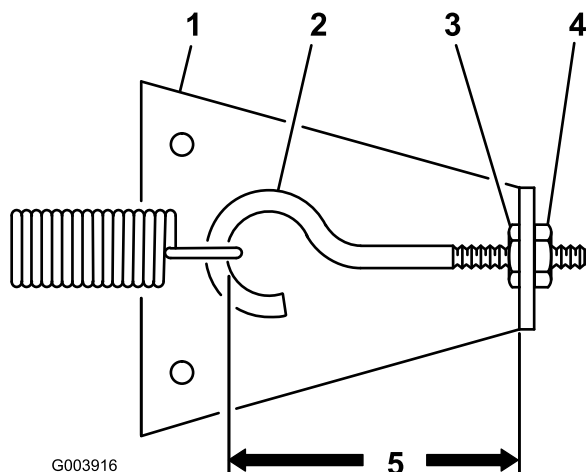

Figure 62
- Loosen the inner locknut securing the eye bolt to the spring anchor plate (Figure 62).
- Rotate the outer locknut clockwise until the distance between the inside of the eye bolt loop and the inside of the spring anchor plate is shortened 1/8 inch, as shown in Figure 62. Tighten the inner locknut.